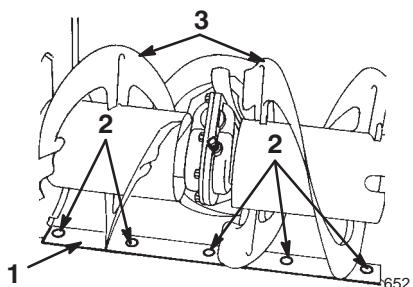

Figure 23
1. Skid (2)
2. Flange nuts (4)
3. Auger side plate (2)
6. Support the *auger blades* so that they are 1/8 inch (3 millimeters) off the ground (Fig. 23).
8. To adjust the scraper, loosen the 5 mounting screws (Fig. 23), level the scraper, and tighten the mounting screws.